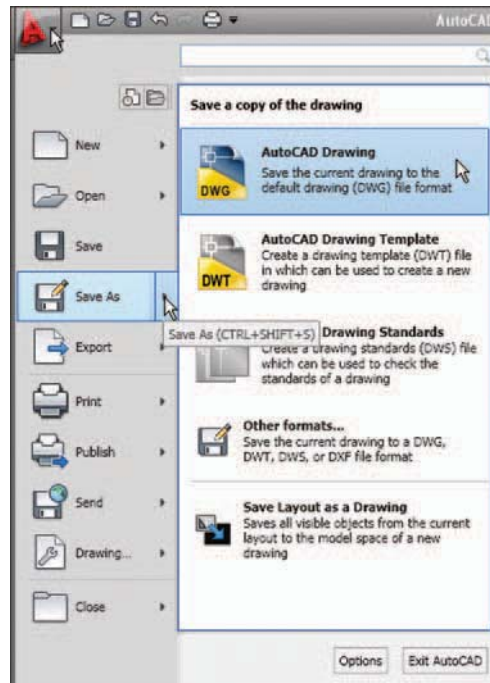

Fig. 4.20 Calling **Save As**
1. *Left-click* on **Save As** in the menu appearing with a *left-click* on the AutoCAD icon at the top left-hand corner of the screen (Fig. 4.20).